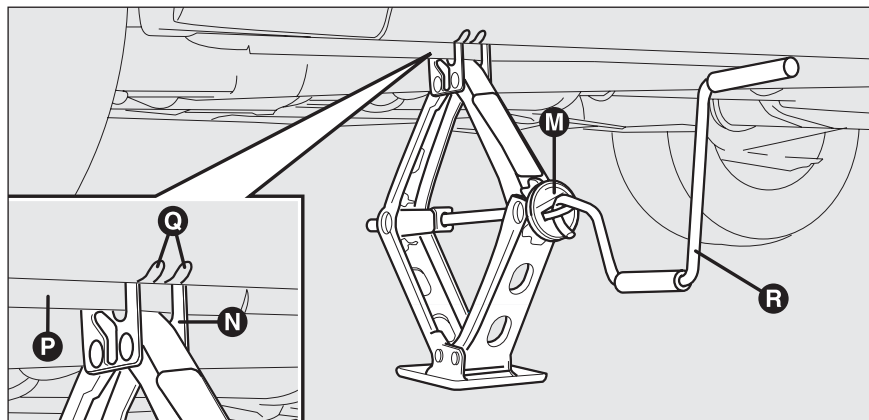

fig. 6
- ☐ work the jack crank **M-fig. 6** to extend it until the groove **N** on the upper part of the jack is correctly inserted on the lower profile **P** of the body in point **Q** (at approx. 72 cm from the front wheel centre or 75 cm from rear wheel centre);
- ☐ fit the handle **R-fig. 6** to operate the jack and raise the car until the wheel is a few centimetres from the ground;
- ☐ work the jack handle **R**-fig.6 to lower the car and remove the jack;